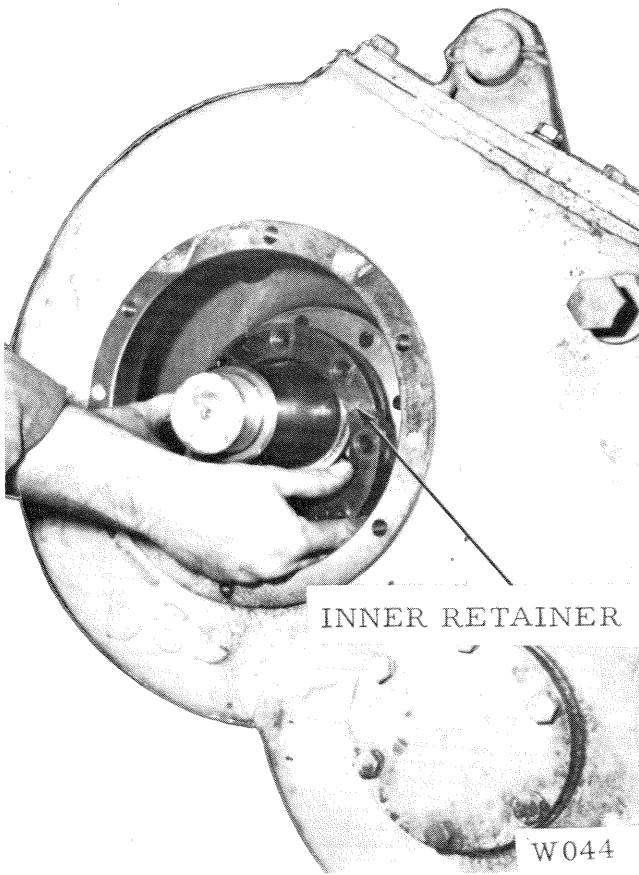
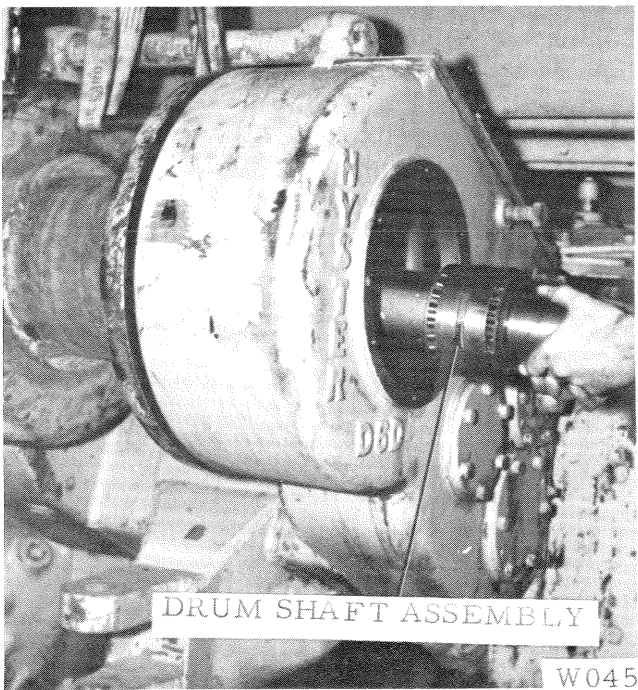

Figure 50
Figure 51
3. Unscrew the bolts securing the inner retainer. Lift the retainer out of the side frame. Fig. 50. Attach the drum gear to the drive flange with two bolts placed 180° apart. Place a drain pan under the drum to catch approximately two quarts of oil.
4. Using a soft drift and hammer, tap the drum shaft toward the right side until the bearings are out of their bores. Pull the shaft out. Fig. 51.
7. Push the drum drive gear completely onto the drive flange splines. Slide the drum shaft through drum gear, drum, left drum bearing and left side frame. Fig. 51. Tighten the shaft nut against the left side frame. Secure the inner retainer, fig. 50, to the drum gear with the attachin